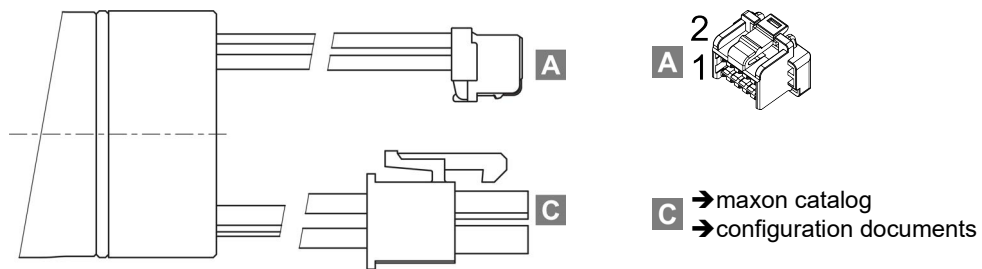

Figure 15 ENX 13 | 16 | 19 | 22 EASY INT Absolute – Cable Plugs
- Absolute encoder with plug / Motor with plug (→Figure 15)